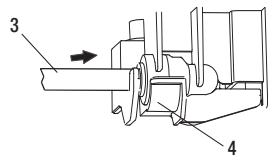

Figure 2
- When the water comes out from the nozzle, please use a container to catch the water. (Figure 2)